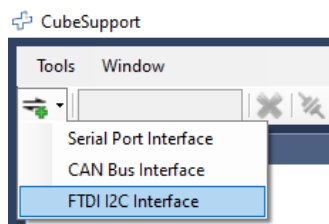

Figure 37: Selecting I2C interface
- 5) From the dropdown menu in the CubeSupport application, select “FTDI I2C Interface” as shown in Figure 37.